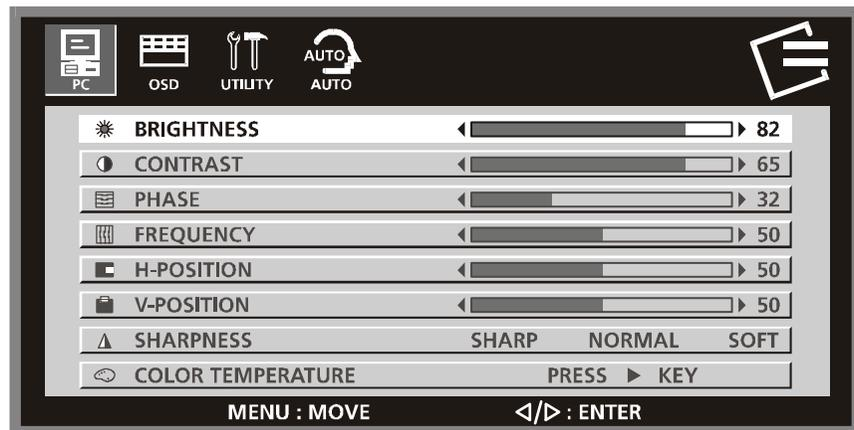

Figure 3: ChassisTouch 450 monitor On Screen Display (OSD) menu
2. Make sure the video image is displayed on the monitor's display. If it is not visible, first check to see if the LED on the back of the monitor is flashing orange-to-green. If not, press the Power button on the back of the monitor (see Figure 3 on page 16).
Selecting **MENU** will pull up the On Screen Display (OSD) menu, as shown in Figure 3.
Selecting the Brightness option (as in Figure 3) allows you to adjust the brightness of the display. Adjust the brightness using the **UP** and **DOWN** buttons. Press **EXIT** to confirm a setting.